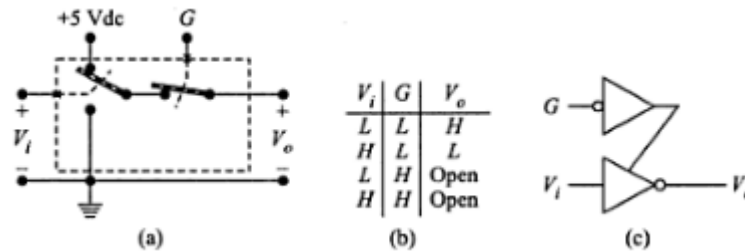

Figure 1.11: Inverting tri-state buffer (a)Model (b)Truth table (c)Symbol
i.e. when  $G=\text{LOW}$ , the circuit is activated and output  $V_o$  is the inverse of the input  $V_i$  (Fig: 1.11).